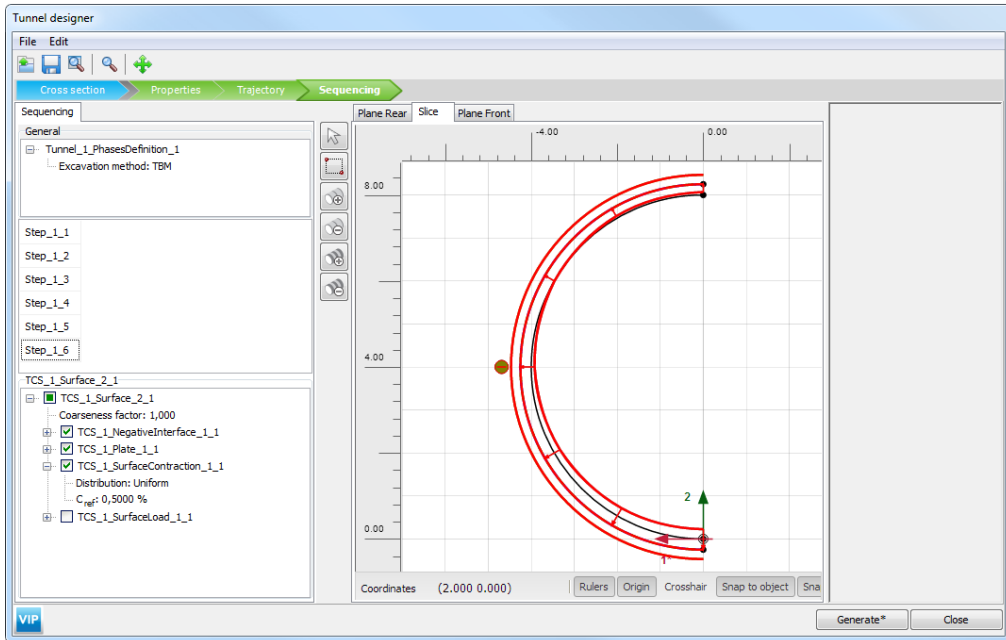

Figure 6.13 Slice tabsheet in the Tunnel designer for Step_1_6
-  **Step_1_6, tail of the shield:** The last slice of the shield has a constant diameter. Hence, from the *Slice* tabsheet select the outer surface and select the surface contraction. In the *Selection explorer* select the *Uniform* option with $C_{ref} = 0.5\%$ (Figure 6.13).